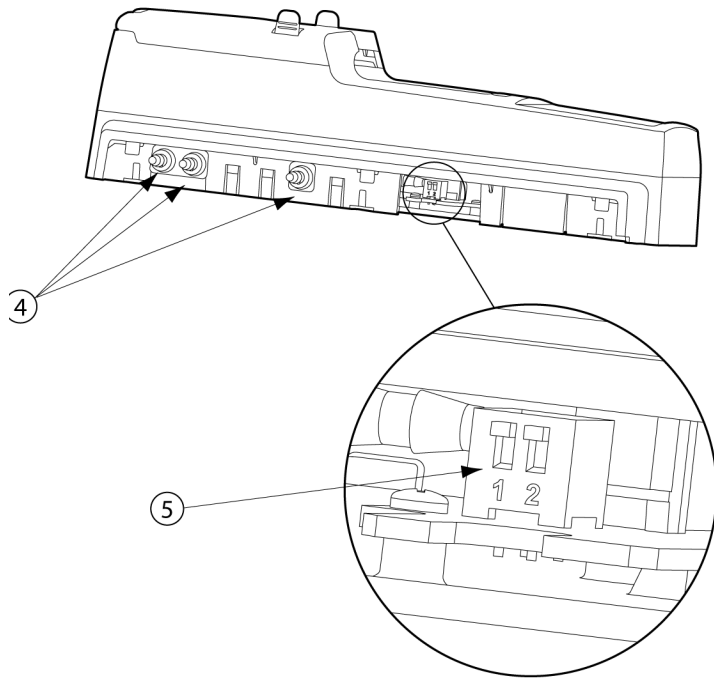

Figure 21. Changing Dip Switch Settings
5. Reconnect the GasAlertClip Extreme docking module. Refer to Figure 21.